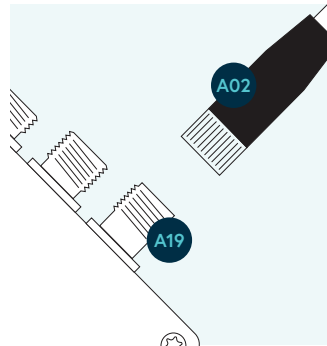

FIGURE 08
2. Connect the screw connector of the power cable **A02** to the Via gateway connector **A19** (fig 08).